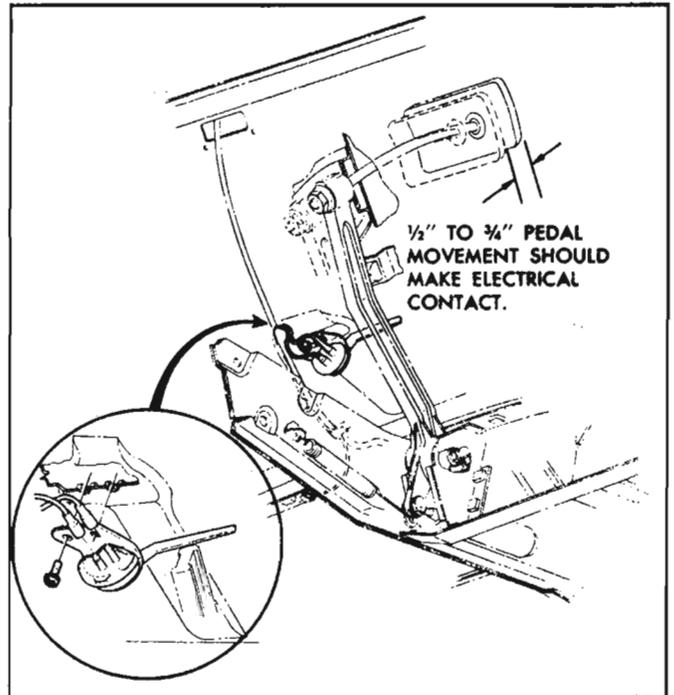

Fig. 8-158—Stoplight Switch Adjustment
4. Switch adjustment should be such that $\frac{1}{2}$ " to $\frac{3}{4}$ " pedal will make electrical contact (see Figure 8-158). If necessary, adjust the switch by bending the switch bracket until proper operation is obtained.